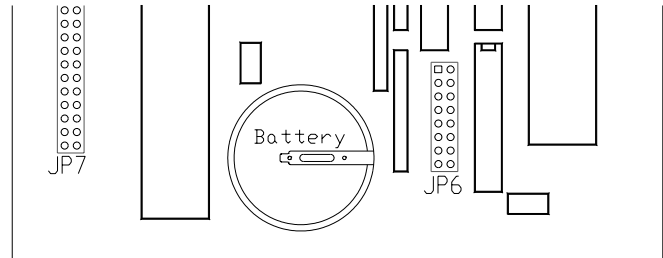

Figure K.8-1: Battery Location on Micro-controller Board
The Model DCPU contains a battery for continuous power to the on-board random access memory (RAM) {Figure K.8-1}. This RAM is viable with the battery backup for approximately thirty (30) days. The Model DCPU will trickle-charge the battery for the battery-backed RAM when AC power is supplied to the system.